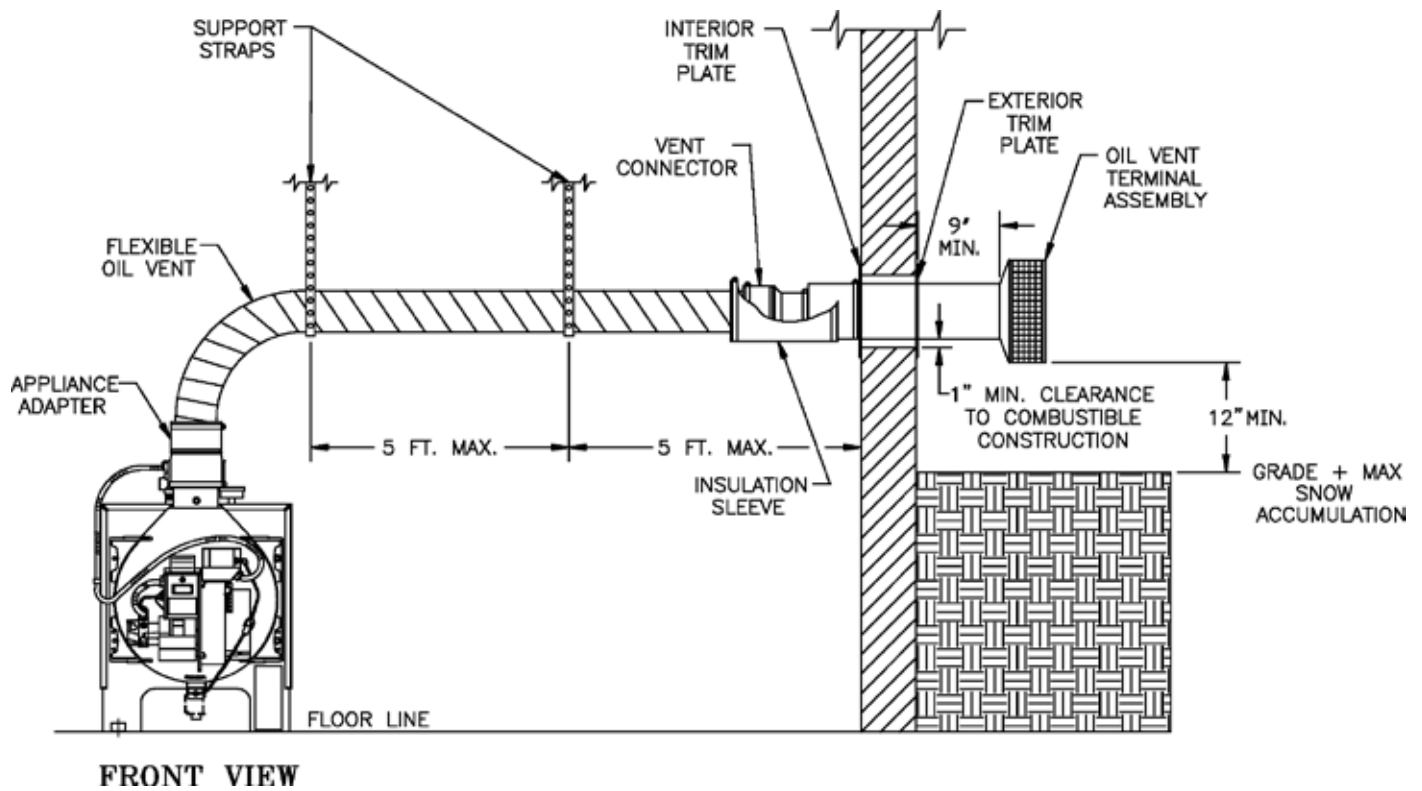

Figure 10: Vent Installation
1. Install Vent Terminal. See Figure 10.